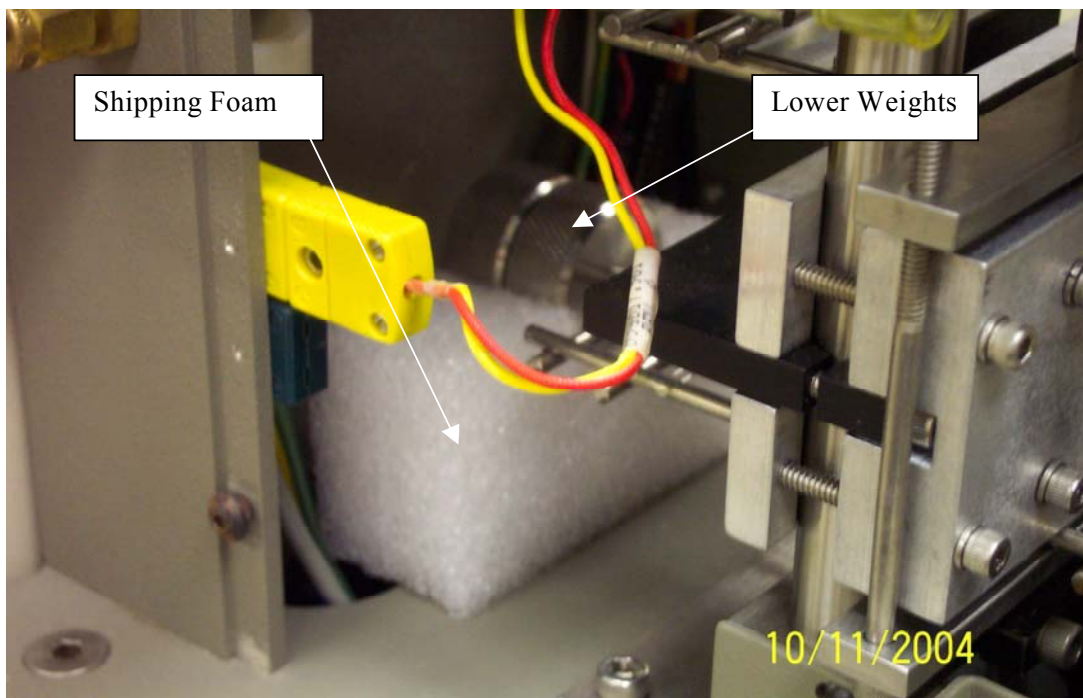

Figure 11
11. Install the rear shipping foam support under the lower weights (Figure 11).